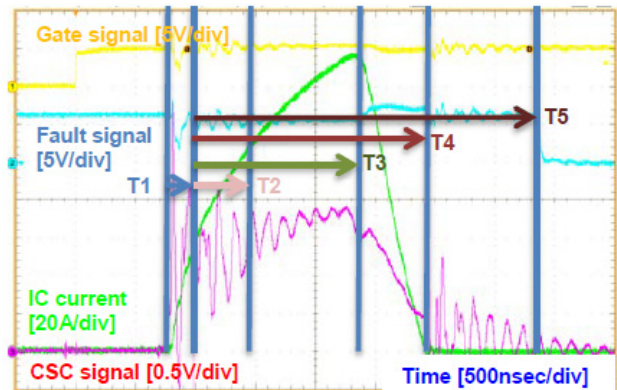

Figure 28. Short Circuit Waveform (NFVA33065L32, Ref. Condition: $V_{DD} = 16.5\ \text{V}$, $V_{DC} = 400\ \text{V}$, $T_J = 25^\circ\text{C}$)
- Power Factor (PF): 0.8
- De-rating Ratio of Shunt Resistor at $T_{SHUNT} = 100^\circ\text{C}$: 70% (refer to Figure 28)
Figure 28 shows operating waveform of SCP (Short-circuit Current Protection) function. Normally, t (time constant of RC filter of C_{SC}) don't accurately operate due to fast di/dt of I_{SC} (short-circuit current). Therefore, we should consider this kind of situation when decide time constant of RC filter of C_{SC} . Normally, T (time constant of RC filter of C_{SC}) accurately operates in Over-Current Protection operation (OCP).